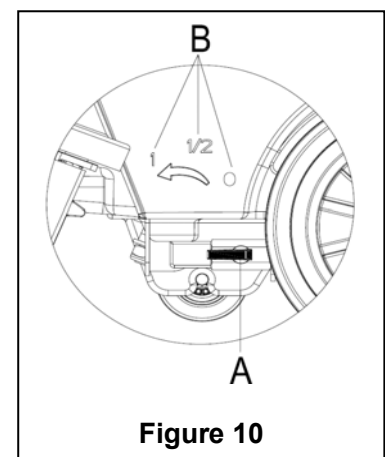

Figure 10
Regulating the ball valve handle (A, Figure 10) must be done under the condition when the power switch (41) is in the "O" position.
12. The volume of the water flow may be adjusted through the ball valve handle (A, Figure 10) according to the amount of water practically required for scrubbing the floor.